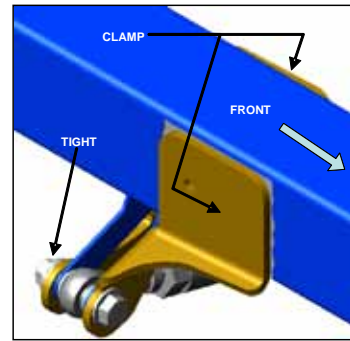

Figure 74
- Clamp stiffener plates to frame and tighten rod end bolt. Figure 74